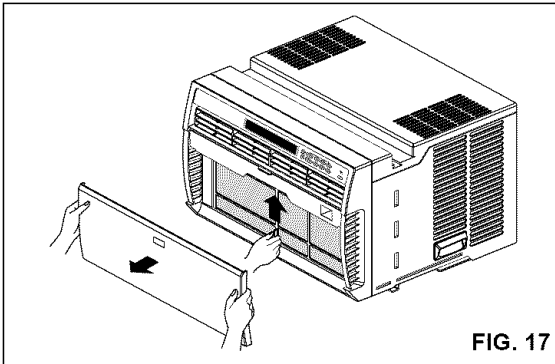

FIG. 17
- Pull the inlet grille forward, grasping both sides, then pull out the air filter. (FIG. 17)